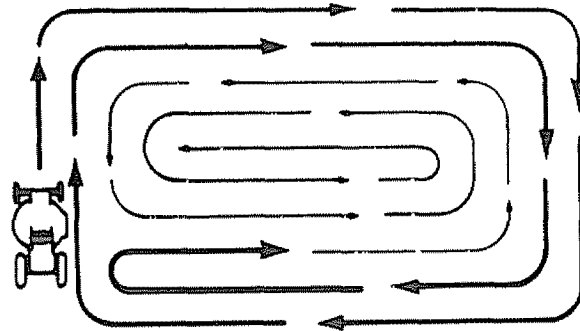

FIGURE 16
- c. When mowing large areas (Fig. 16), start by turning to the right so that the clippings will discharge away from shrubs, fences, driveways, etc. After one or two rounds, mow in the opposite direction making left hand turns until finished.